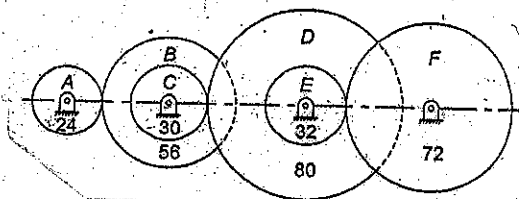

FIGURE-7.
5. (a) The gearing of a machine tool of printing offset machine is shown in **FIGURE-7**, consists of of compound gears **B-C** and **D-E**. All gears are mounted on parallel shafts. The motor shaft rotating at **800rpm** is connected to the gear **A** and **B** the output shaft to the gear **F**. The numbers of teeth on gears **A, B, C, D, E** and **F** are **24, 56, 30, 80, 32** and **72** respectively. Determine the speed of the Gear **F**. (10)